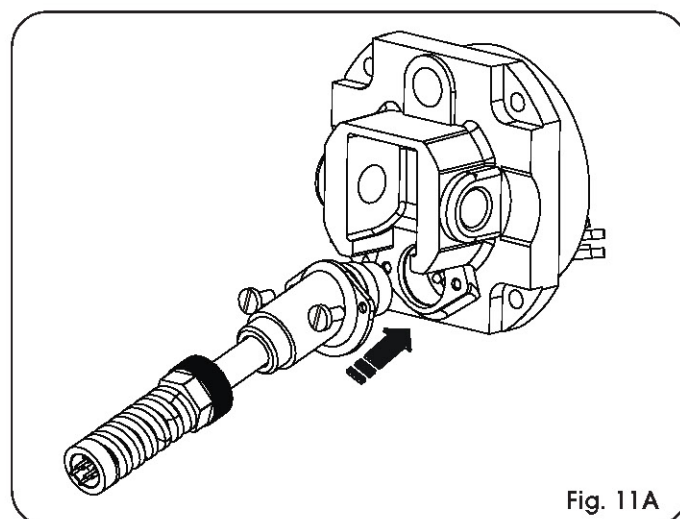

Fig. 11A
- Connect the power cable of the operator (Fig. 11A).
- Fasten the screws (Fig. 11A).